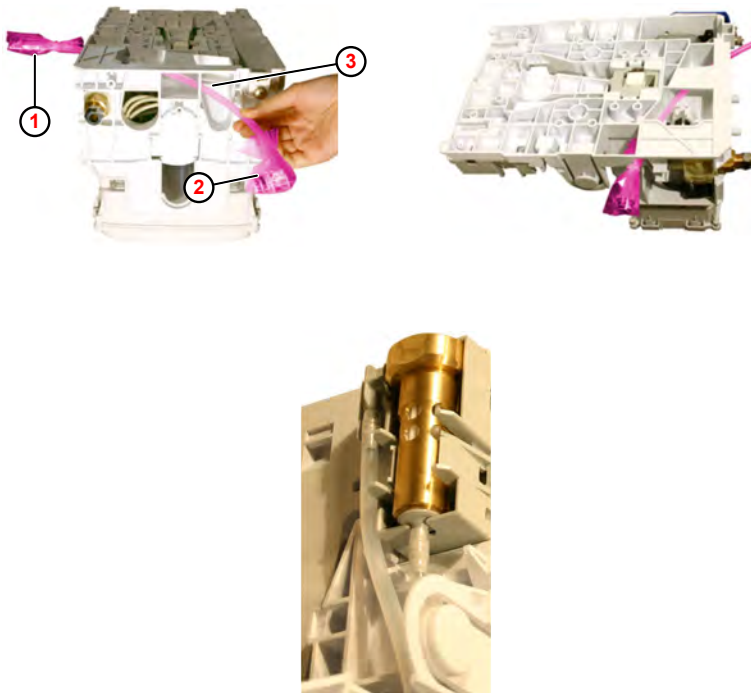

Fig. 24: Installation of water line
1. Guide the water hose (Fig. 24 , ①) upwards from below and through the opening ③ in the back wall of the housing.
4. Remove the protective packaging from both connection nipples ② .